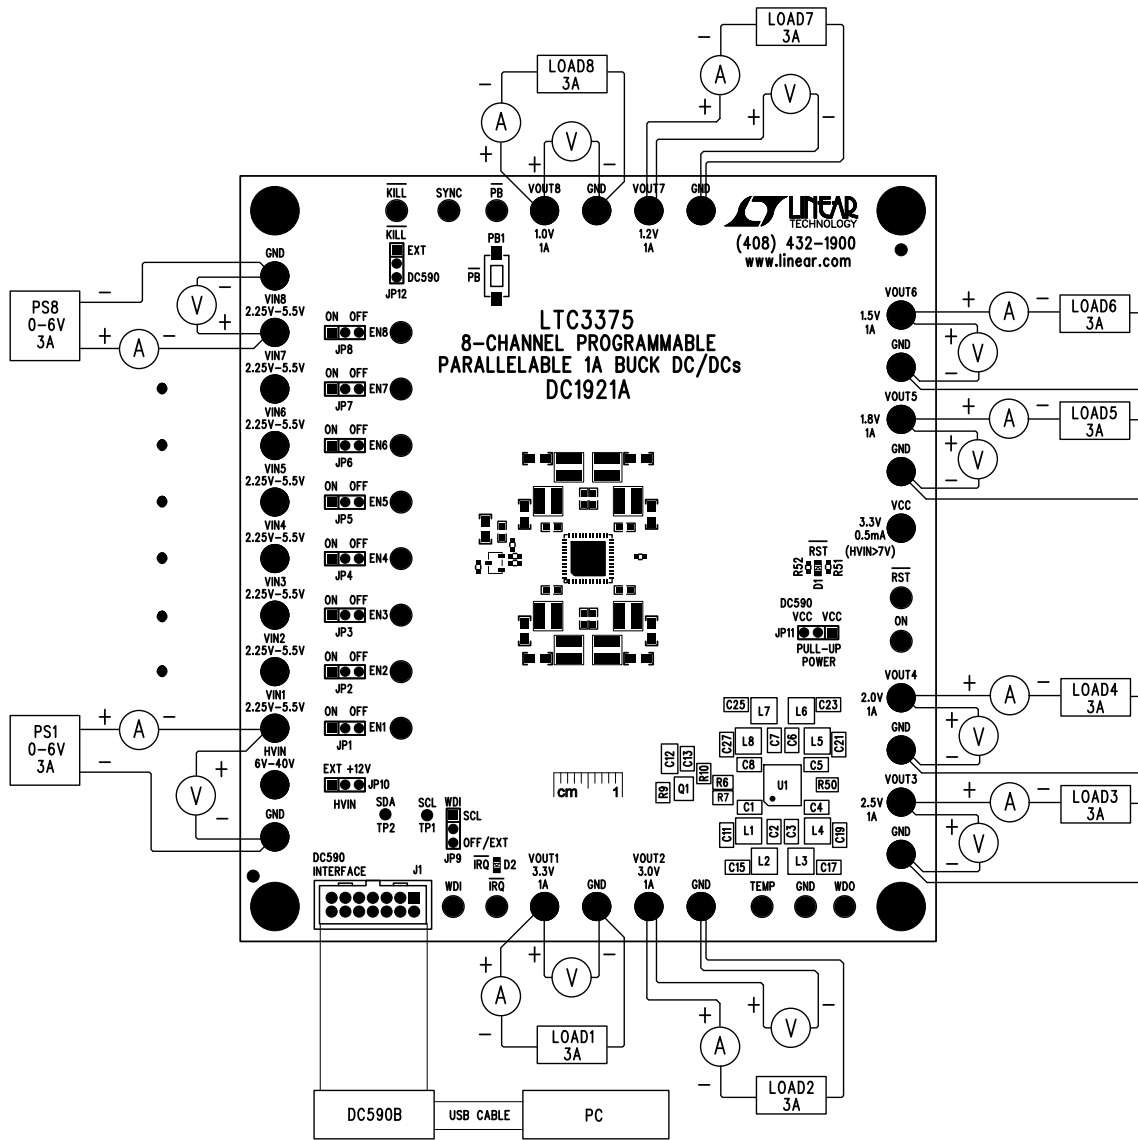
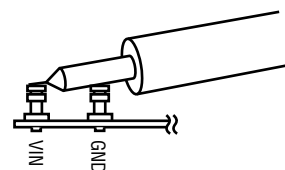

Figure 1. Proper Measurement Equipment Setup
Figure 2. Measuring Input or Output Ripple
The DC1921A is easy to set up to evaluate the performance of the LTC3375. Refer to Figure 1 and Figure 2 for proper measurement equipment setup, and follow the evaluation procedure below using the DC590B board.
NOTE: When measuring the input or output voltage ripple, care must be taken to avoid a long ground lead on the oscilloscope probe. Measure the input or output voltage ripple by touching the probe tip directly across the VIN or VOUT and GND terminals. See Figure 2 for the proper scope probe technique.
8. Connect the DC1921A to the DC590B USB serial controller using the supplied 14-conductor ribbon cable, as shown in Figure 1.
9. With the power off, connect a 0V to 6V, 3A power supply to each VIN and GND with a series ammeter and a voltmeter, as shown in Figure 1. A single 0V to 6V, 10A supply can be used instead to supply all VIN inputs simultaneously.
16. With the power off, connect a 0V to 3A load to each VOUT and GND with a series ammeter and a voltmeter, as shown in Figure 1.
17. Slowly increase the load from 0A to 1A and observe the output voltage. The output ripple may also be observed using an oscilloscope with the probe connected, as shown in Figure 2.
To combine regulators 1 and 2 for a 2A output, perform the following steps and refer to Figure 1: